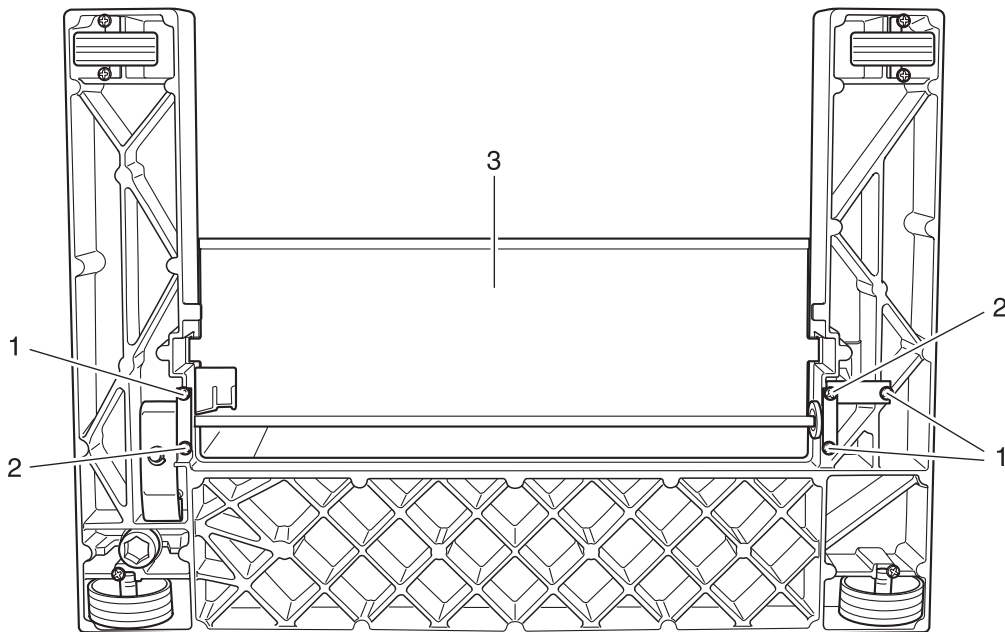

Fig. 19
- Loosen screws 1 by turning approx. 3 times (fig. 19)